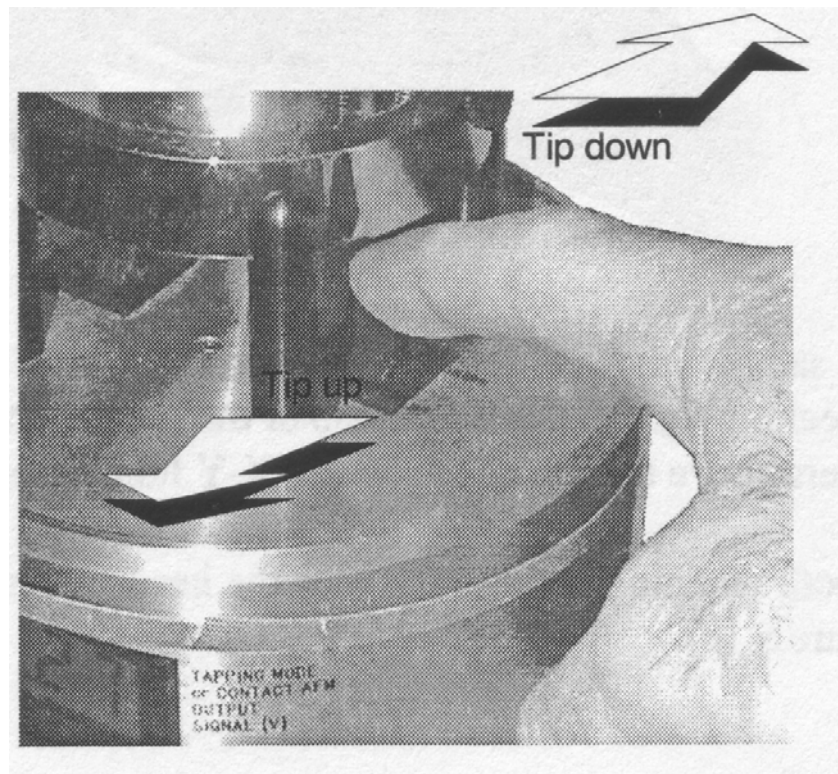

Figure 1
- Lower the Sample stage (see Figure 1).
- Lower manually the cantilever using the button "*down*"(see Figure 1) without touching the sample. The rest of the approach has to be done automatically by pressing  .
- Press  to lift up the tip. Lift manually the cantilever using the button "*up*"(see Figure 1)